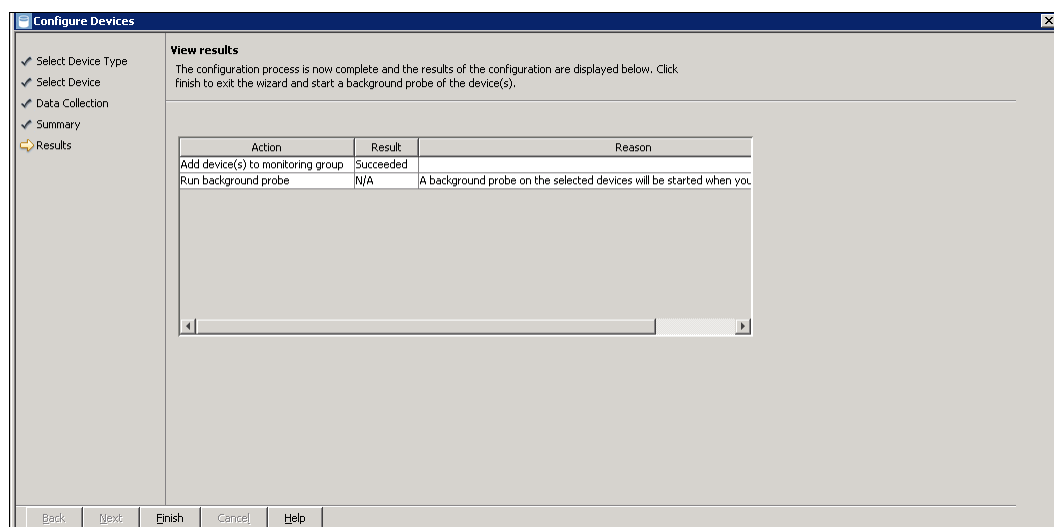

Figure 12-50 View results
12. The IBM Storwize V7000 system has now been added to Tivoli Storage Productivity Center. Click **Finish** to close the wizard (Figure 12-50).